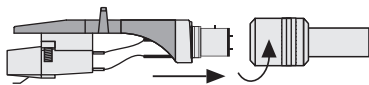

Fig. 4: Mounting the headshell
- 4 Place the headshell onto the front end of the tone arm and secure it with the locking nut (Fig. 4).